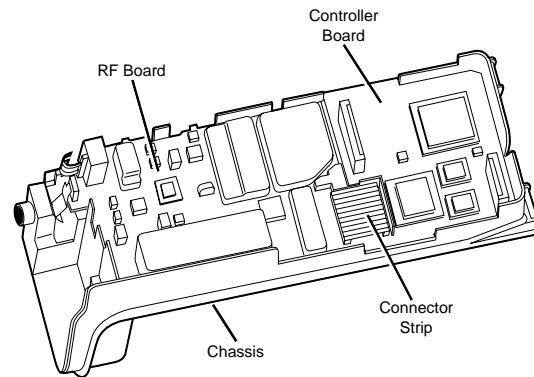

Figure 9 Removing the RF and Controller Boards
**NOTE:** The RF board and the controller board are connected together with a stiff connector strip (P301/P704). See Figure 9.